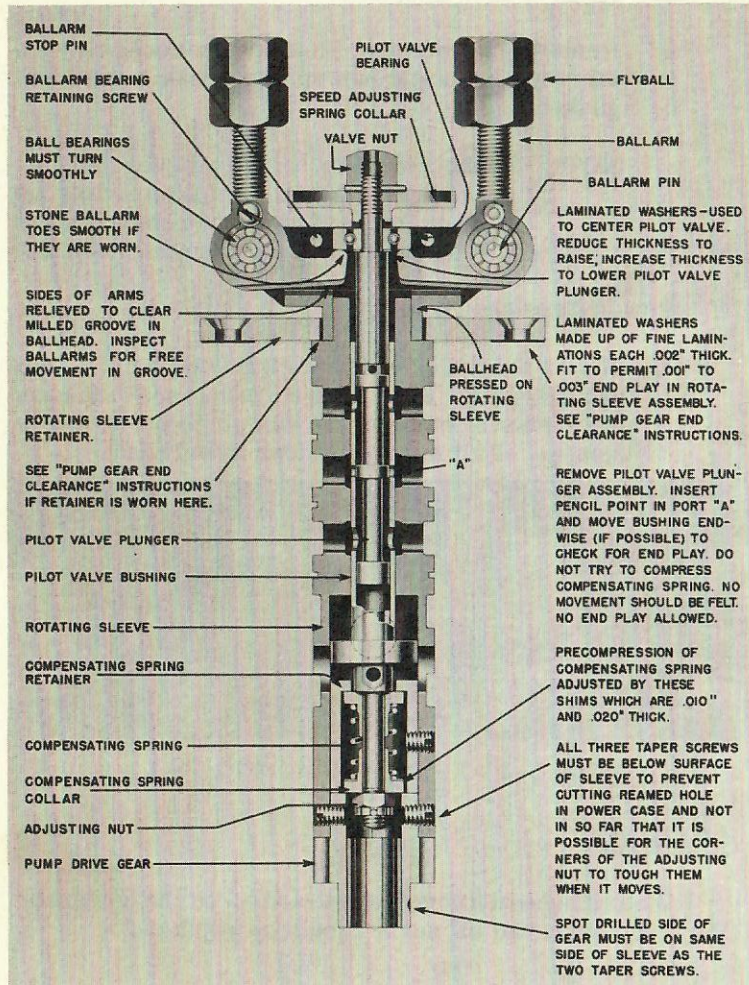
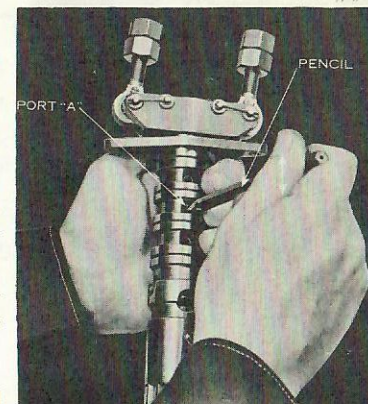

FIG. 5-1
FIG. 18-1
1. Remove three taper screws and pull out pump drive gear, Fig. 5-1.
5. If the pilot valve plunger needs to be raised to equalize the openings, reduce the thickness of the laminated washers between the pilot valve bearing and the shoulder of the pilot valve plunger. If the plunger needs to be lowered, add the necessary laminations to the washer to increase its thickness. Fig. 5-1.
2. Remove pilot valve plunger assembly. See Fig. 5-1.
9. Remove pilot valve if in bushing and check for end play or lost motion of bushing by inserting pencil point in port "A", Fig. 5-1, and attempt to move it endwise with light force in both directions Fig. 18-1. No end play or lost motion allowed.